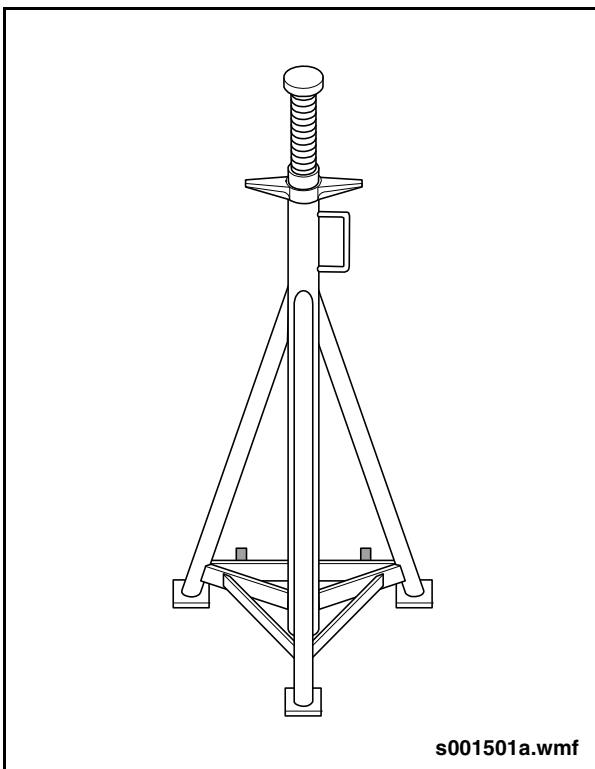

Fig. GI-18: Jack Stand
9. Position a jack stand squarely under each reinforced jacking point on the frame. Each jack stand must have a minimum weight bearing capacity of 12,000 lbs. (5,443 kg). See "Fig. GI-18: Jack Stand" on page 42.